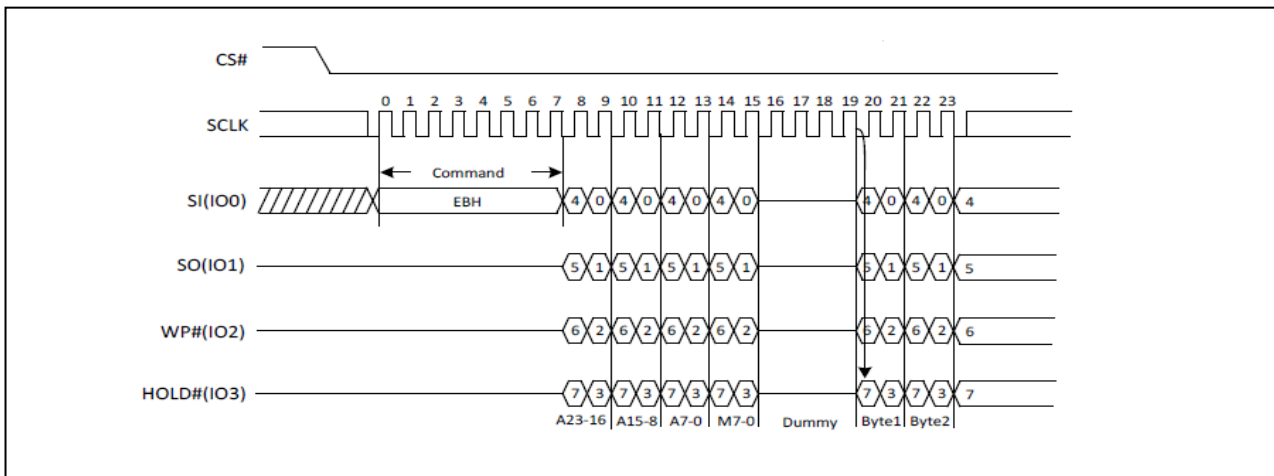

Figure11. Quad I/O Fast Read Sequence Diagram (M5-4≠(1, 0))
The Quad I/O Fast Read command is similar to the Dual I/O Fast Read command but with the capability to input the 3-byte address (A23-0) and a “Continuous Read Mode” byte and 4-dummy clock 4-bits per clock by IO0, IO1, IO3, IO4, each bit being latched in during the rising edge of SCLK, then the memory contents are shifted out 4-bit per clock cycle from IO0, IO1, IO2, IO3. The command sequence is shown in Figure 11. The first byte addressed can be at any location. The address is automatically incremented to the next address after each byte of data is shifted out. The Quad Enable bit (QE) of Status Register (S9) must be set to enable for the Quad I/O Fast read command.